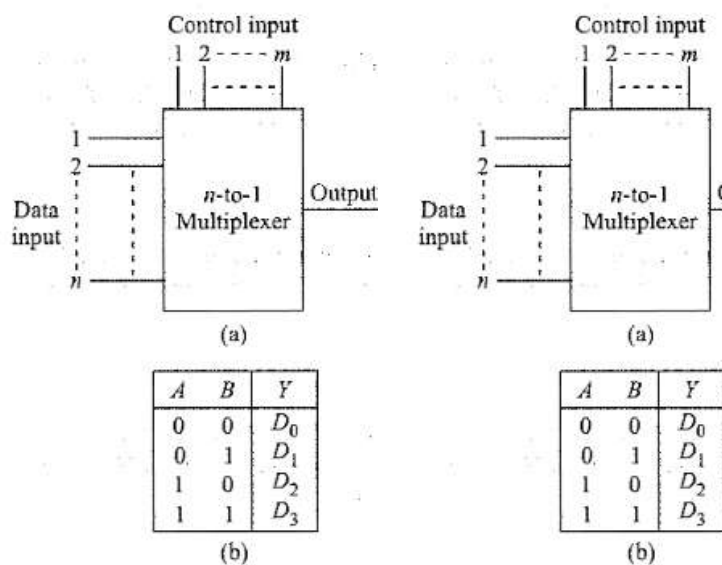

Fig. 4.1 (a) Multi (c) Its log
- The circuit diagram of a 4-to-1 multiplexer is shown in Fig. 4.1 c and its truth table in Fig. 4.1 b. Depending on control inputs A , B one of the four inputs D_0 to D_3 is steered to output Y .